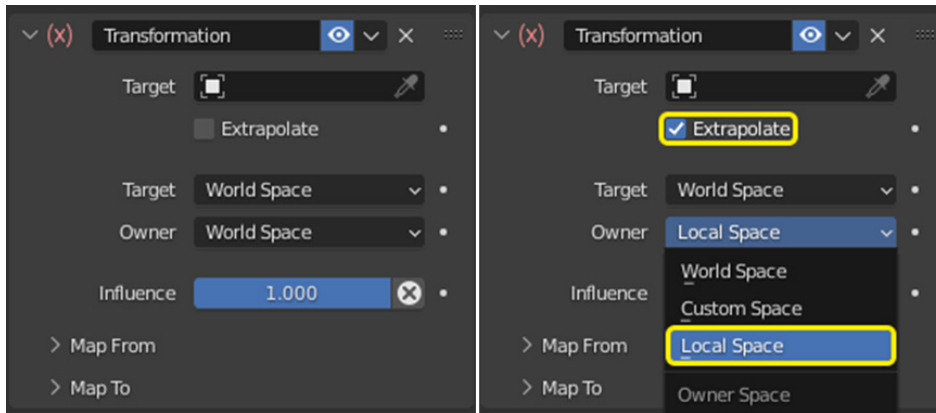

Figure 11.11 – Transformation constraint (left) and constraint settings (right)
This will create a menu in the **Object Constraints** tab, much like a modifier. *Figure 11.11 (left)* shows the default **Transformation** constraint menu.
5. Check the **Extrapolate** checkbox and set **Owner** to **Local Space**, as shown in *Figure 11.11 (right)*: